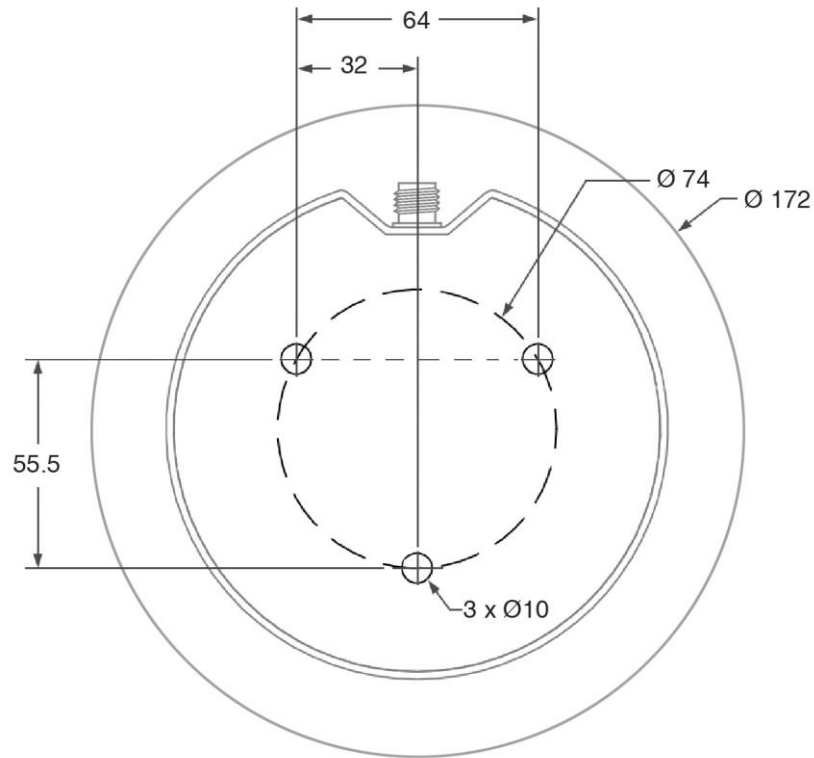

Figure 6 CAMS-10/RC anchoring template
Connection to earth/mounting	By means of three A2-70 stainless steel M8 rods (see anchoring template in Figure 6).
1. Drill the holes in the prefabricated metallic structure, cell fittings or wall or ground of the metallic cell according to the anchoring template (see Figure 6).